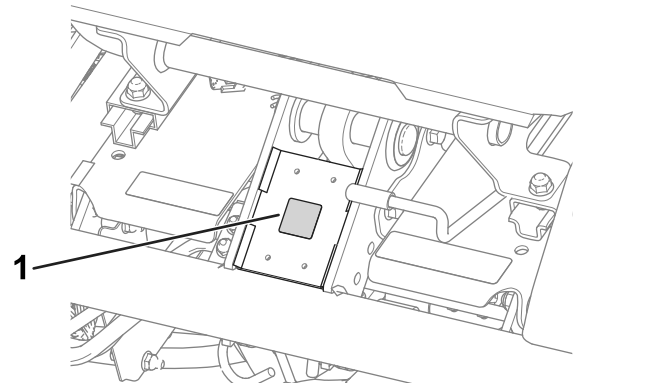

Figure 16
- Apply the CE mark decal (Part No. 93-7252) to the frame under the front of the seat (Figure 16).